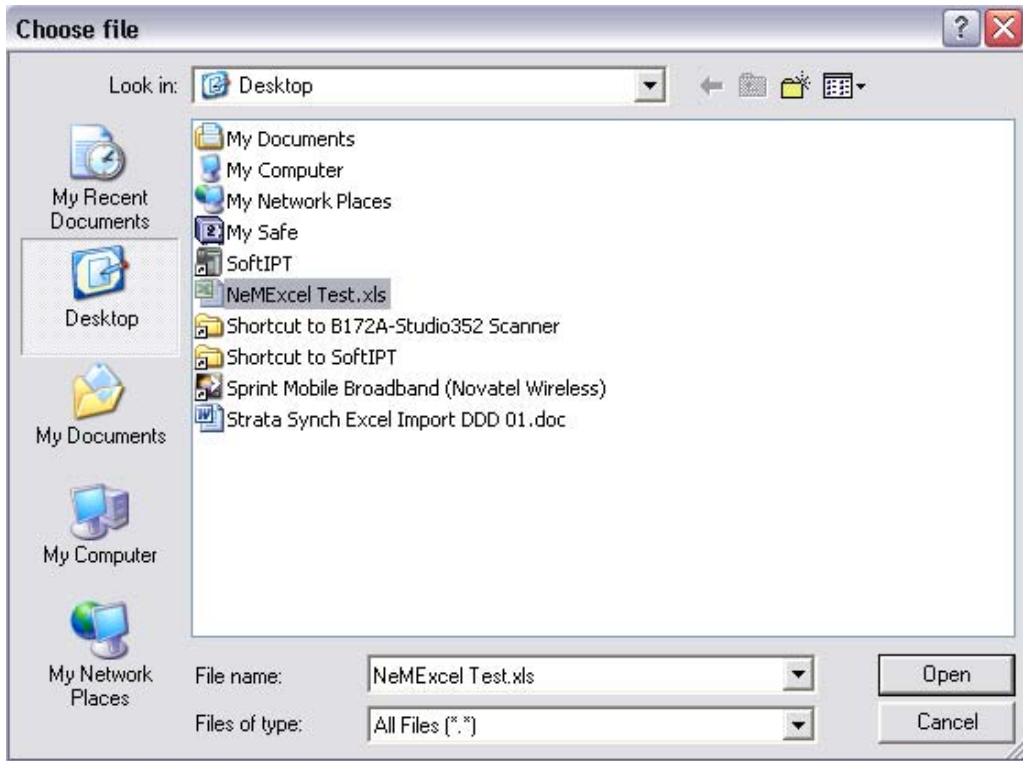

Figure 2-3. Choose File Screen
- Locate the .xls file that was created with the station data and click the **Open** button as shown in Figure 2-3.